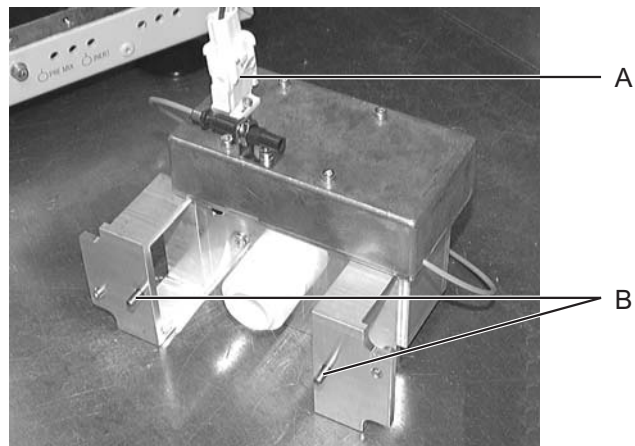

Figure 45: Energy monitor, rear side
The energy monitor is fixed at the front of the laser tube by two locating pins (see Figure 45, B). It is connected to the 24 V DC power supply line and FOL. The power supply line (A) does not need to be disconnected, providing that care is taken not to damage or break the wire and/or links.